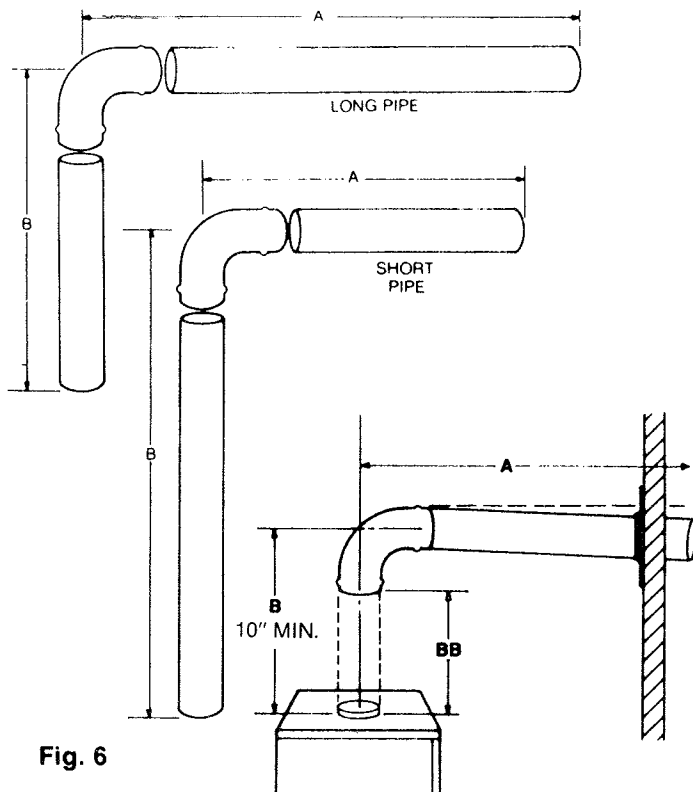

Fig. 6
- F. With the elbow engaged, slide the horizontal run (A) of the 5" pipe through the wall flange until the elbow centers over the vent outlet on the unit. Temporarily support this section so that the pipe is pitched **down** from the unit toward the outside wall ¼" per foot. This will prevent water or melted snow from running into the unit.
- G. Measure vertical distance (BB) (base of collar or unit to shoulder on elbow) allowing for full engagement of collar and elbow. Cut vertical 5" and 3" pieces the same length (Figure 6).